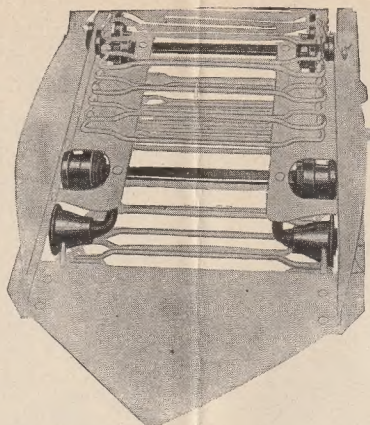

Fig. 382
**Separate, removable bearings** (Fig. 382) carry the elevator chain. They are cast iron with the part most